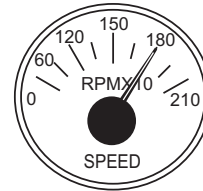

Figure 53. Engine Tachometer
11. The **tachometer** (Figure 53) will indicate the speed of the engine in **RPM**. Under normal operating conditions this speed is approximately 1,800 rpm.